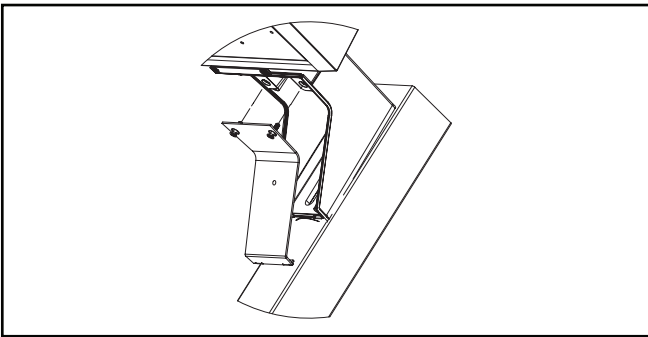

Figure 5.
**Note:** Ensure the luminaire supply leads do not get pinched between cover and mounting arm. (Figure 5.)